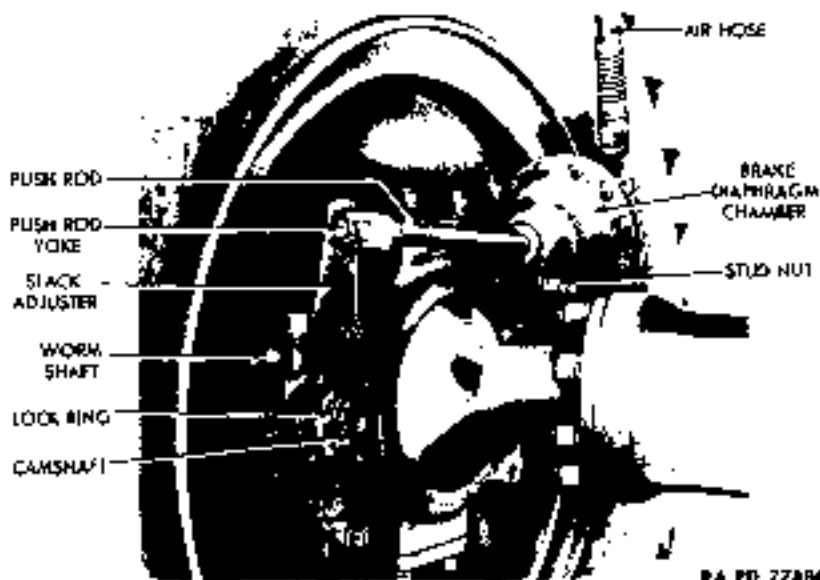

Figure 70 — Front Brake Diaphragm Chamber and Slack Adjuster Installed
(1) **DESCRIPTION** (figs. 70 and 74). One brake diaphragm is attached to vehicle adjacent to each of the four wheels. Diaphragms convert air pressure to mechanical motion in applying brakes. Depressing the brake pedal admits air pressure to each diaphragm chamber, and pressure causes diaphragm motion which is transmitted to brake cam by means of a push rod and slack adjuster. When brake pedal is released, pressure is exhausted from the chamber, and brakes are then released by a spring which returns slack adjuster, push rod, and diaphragm to their original position.
(1) **DISCONNECT SLACK ADJUSTER** (figs 70 and 74). Remove cotter pin and clevis pin which connect slack adjuster to push rod yoke.
(2) **DISCONNECT AIR HOSE** (figs. 70 and 74). Screw hose nut from fitting on chamber.
(3) **DETACH CHAMBER** (figs. 70 and 74). Remove stud nut and lock washer which secures chamber at front wheel brake, or remove the four nuts, lock washers, and bolts which secure chamber at rear wheel brake. Lift chamber from vehicle.
(1) **ATTACH CHAMBER** (figs. 70 and 74). Position chamber on backing plate or on bracket. Install stud nut which secures chamber at front wheel brake, or the four bolts, lock washers, and nuts which secure chamber at rear wheel brake.
(2) **CONNECT AIR HOSE** (figs. 70 and 74). Screw air hose to fitting on chamber.
(3) **CONNECT SLACK ADJUSTER** (figs. 70 and 74). Position slack adjuster to push rod yoke, and secure with the clevis pin and cotter pin.
(1) **DESCRIPTION** (figs. 70 and 74). One slack adjuster fits on the spline on the shaft of each brake cam. These are special levers which connect the brake diaphragm chamber push rods to the brake camshafts.
(5) **ADJUST BRAKES AND RECORD PUSH ROD TRAVEL (FIRST ADJUSTMENT ONLY)** (figs. 70 and 74). Jack up each wheel, and turn slack adjuster worm shaft until brake shoes are tight against drum. Back off worm shaft until wheel is free, and insert feeler gage between toe-end of shoe and drum. Turn worm shaft until 0.008- to 0.010-inch clearance is obtained; then apply brakes, and measure brake diaphragm push rod travel. Record measurement for future use in checking (step (2) above) and adjusting (step (6) below) brakes. **NOTE:** *If adjustment is correct, push rod travel will be same for both wheels on an axle. Dimensions will be about $\frac{1}{8}$ inch on front brakes and about $\frac{1}{8}$ inch on rear brakes.*
(6) **ADJUST BRAKES (ALL SUBSEQUENT ADJUSTMENTS)** (figs. 70 and 74). Turn slack adjuster worm shaft until brake diaphragm cham-
c. **Removal** (figs. 70 and 74). Use a pointed instrument to mark relative positions of slack adjuster and camshaft. Remove cotter pin and clevis pin which secure push rod to slack adjuster. On front slack adjuster, pry lock ring from brake camshaft. On rear slack adjuster, remove attaching screw and special lock washer. Tap adjuster from shaft.
d. **Installation** (figs. 70 and 74). Position slack adjuster on protruding end of brake camshaft as originally installed, and note marks made before removal. On front of slack adjuster, pry lock ring into position at end of shaft. On rear slack adjuster, install special lock washer and attaching screw. Position push rod yoke to slack adjuster, and install clevis pin and cotter pin which attach rod and adjuster.